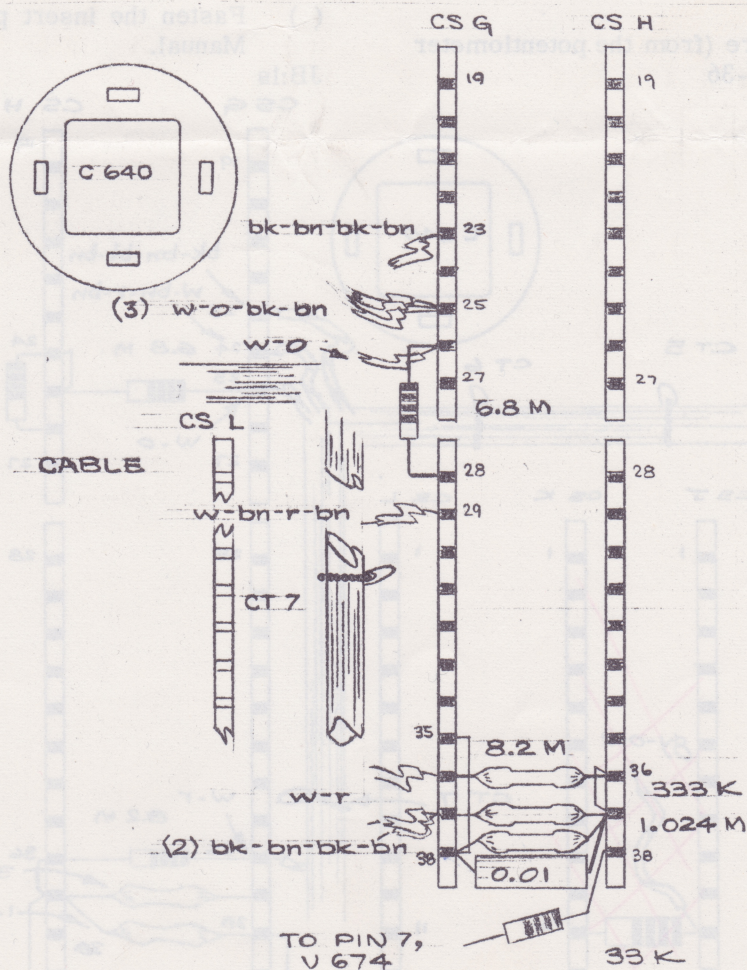

FIG. 5
2. Remove the bare wire between CSG-25 and CSG-26 (see Fig. 5 for ceramic strip location).
3. Install the following components and wires, as indicated in Fig. 5:
1. Remove the following components and wires (see Fig.5 for ceramic strip locations):
3. Install the following wires and components, as indicated in Fig. 5: